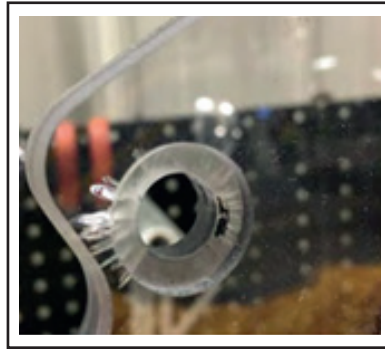

Figure 2 - Cracks on the Lexan Panel
- 1.5. Inspect the Lexan panels for cracking around the corners where the brackets are mounted to the Lexan panels, document road number and panel to be changed if cracks are apparent (see figure 2).